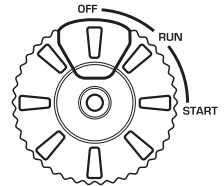

Fig. 9
3. Turn the Multifunctional engine switch to the "OFF" position (Fig. 9).